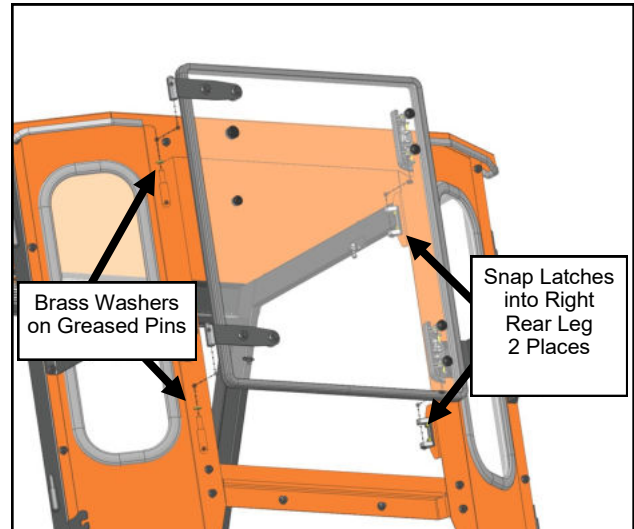

Fig. 9.1 (Rear Window)
- 9.1** Grease the hinge pins for the rear window, and slide on greased brass washers (one washer per pin). See Figure 9.1.